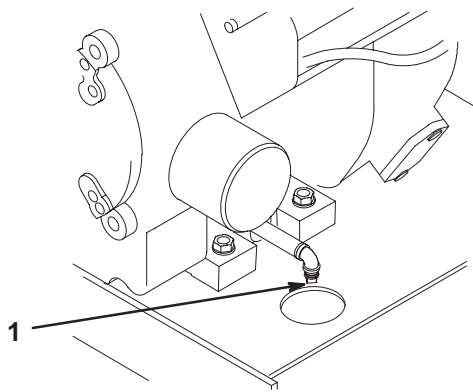

Figure 37
5. Pour approximately 80% of the specified amount of oil, on page 32, into the filler tube (Fig. 37). Now check the oil level; refer to Checking Oil Level, page 32. Slowly add additional oil to bring to full mark on dipstick.